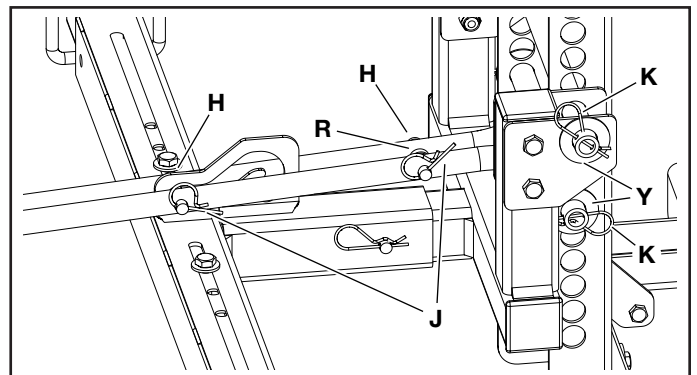

FIGURE 15
2. Remove the hair cotter pins (K) and washers (Y) securing the push tubes and pivot tube to the bulkhead. Retain for reassembly.
3. Remove the hair cotter pins (J), clevis pins (H), and spacer (R) securing the push tubes together. Retain for reassembly.
6. Secure the pivot tube to the bulkhead using the removed washers (Y) and hair cotter pins (K). See Figure 15 below.
8. Secure the push tubes to the bulkhead using the removed washers (Y) and hair cotter pins (K). See Figure 15 below.
9. Reassemble the push tubes and secure with the removed spacer (R), clevis pins (H), and hair cotter pins (J). (See STEP 7 on page 9 for instructions.)